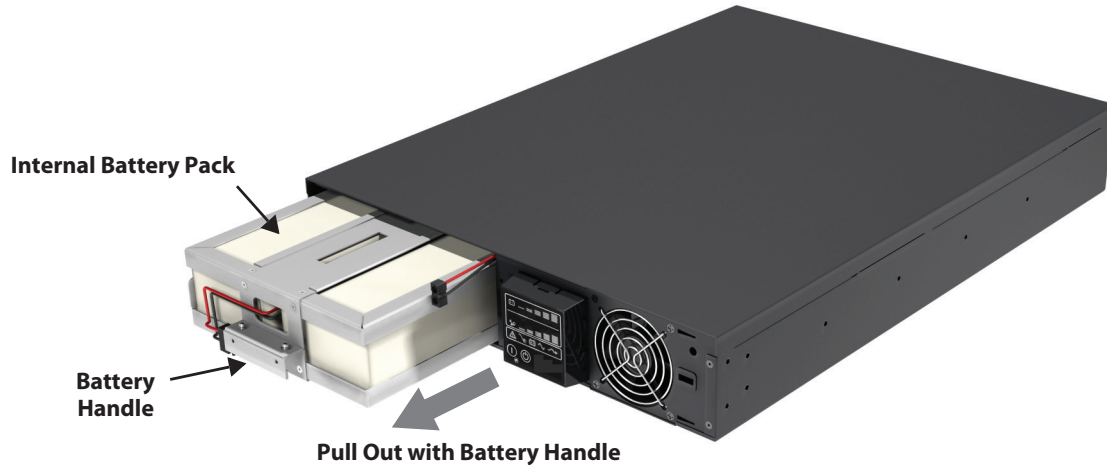

Figure 30: Pull out the internal battery pack
5. Grasp the battery handle and pull the internal battery pack out of the UPS, as shown in Figure 30.